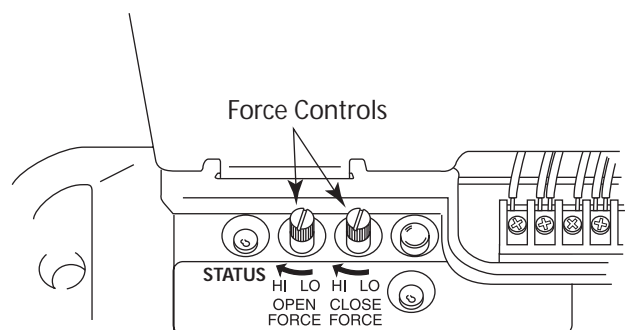

Figure 10 Making Force Adjustments
- A** Pre-set Force Controls to midpoint between fully counter clockwise and fully clockwise (**Figure 10**).